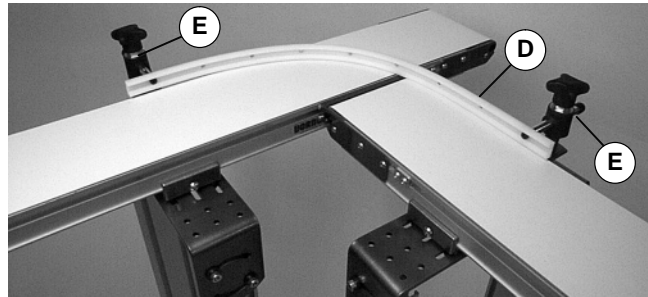

Figure 6
6. Determine arc of guide (D of Figure 6) and position of guide mounts (E). Adjust guide mounts to create desired guide position.